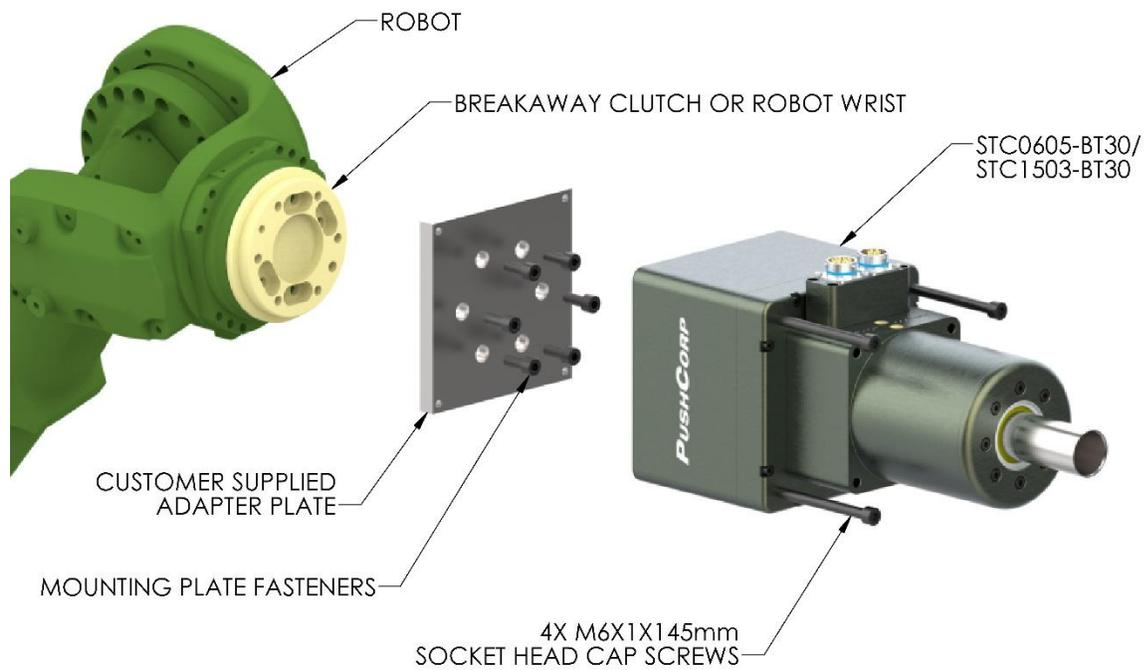

Figure 3: Spindle Motor Direct Mounting
To mount the motor, first attach the customer supplied Mounting Plate to the Robot Mounting Flange or to the Breakaway Clutch, per the manufacturer's specifications. Once the Mounting Plate is secured, place the motor against the Mounting Plate and install (4) four, M6x1, Socket Head Cap Screws (length is dependent on motor SMxxxx = 25mm, STCxxxx-BT30 = 145mm). (See Figure 3) Tighten the fasteners to the torque specified in Section 4.0.